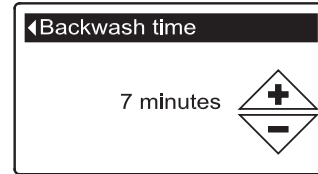

FIG. 68
- 8a. **Backwash time:** Press the UP (▲) or DOWN (▼) buttons to change the backwash time. Hold the button down to rapidly advance. The backwash time can be set from 1 to 30 minutes* (See Figure 68).